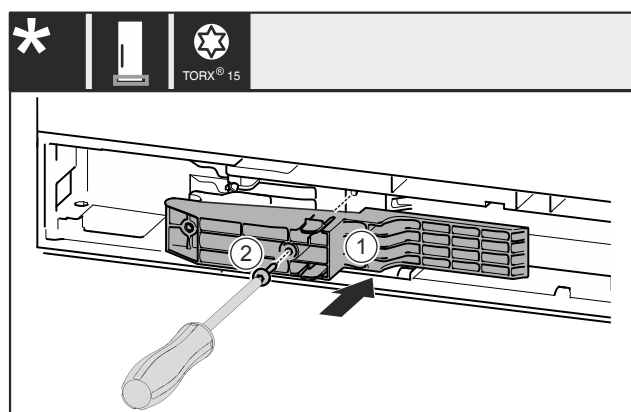

Fig. 45 *
- Insert the adapter piece Fig. 45 (1) on the handle side into the recess.*
- Tighten the screw Fig. 45 (2) with the screwdriver.*